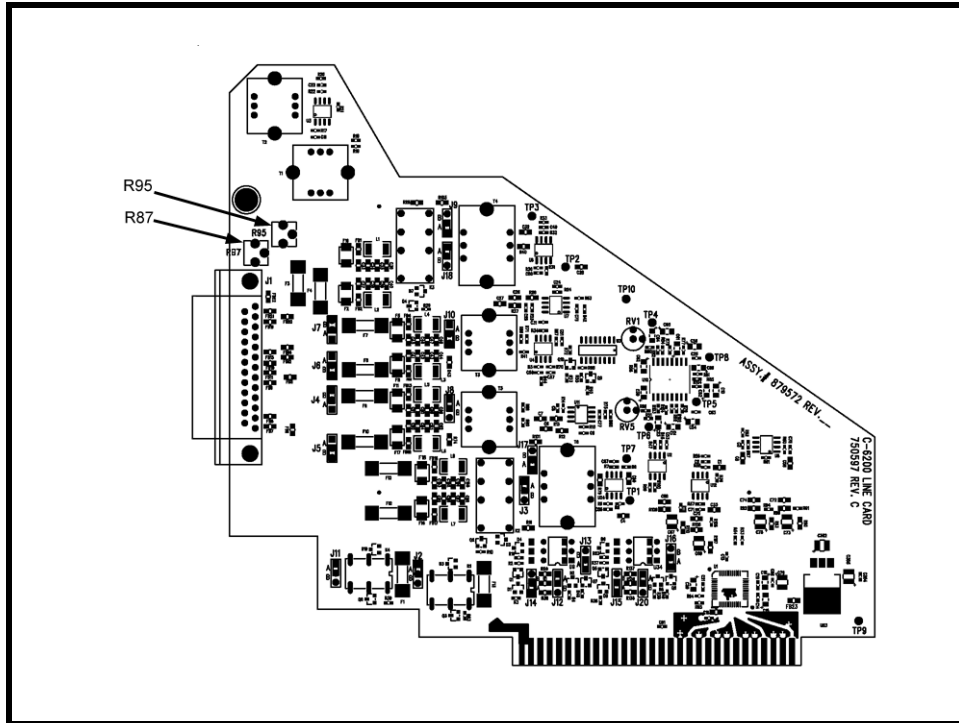

FIGURE 11. Transmit Monitor Resistor Locations—6200TCRD Tone Card
4. From the console you are setting, use the tone card's R95 (see Figure 11) to adjust **Line 1's Tx monitor audio** until a comfortable level from the speaker or handset/headset earpiece is reached.
From the console you are setting, use the tone card's R87(see Figure 11) to adjust **Line 2's Tx monitor audio** until a comfortable level from the speaker or handset/headset earpiece is reached.